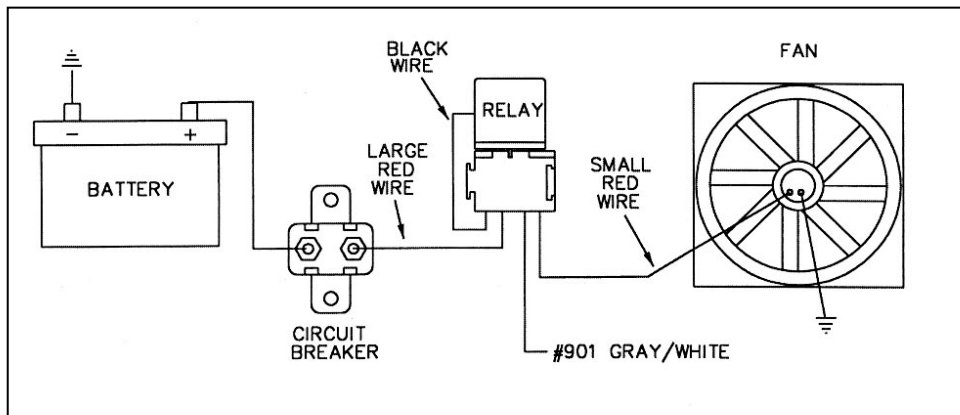

Figure 10-4A Typical Fan Relay Installation (Painless Part #30101)
- 10.5.4 Connect HEADLIGHT SECTION A wire #901 (gry/wht) to the Electric Fan Relay. This wire is an activation wire for the relay, **NOT A POWER FEED**. The other end of wire #901 is in the ACCESSORY SECTION SWITCHES and should be connected to the electric fan switch in the dash. Connect 906 (gry/wht) from ACCESSORY SECTION B+ to the other side of the fan switch. **Figure 10-4A** shows a typical fan relay installation.